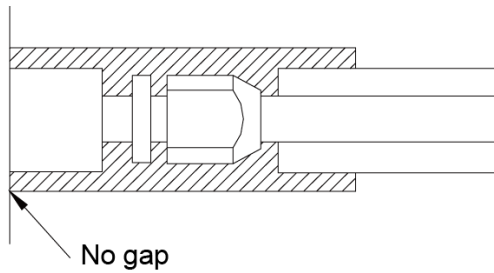

Fig. 5
- 2) The joints of the indoor unit should be wrapped with the insulating material and no gap is allowed on the joint of the indoor unit, as shown in Fig.5.